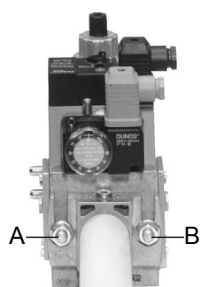
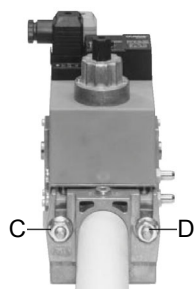
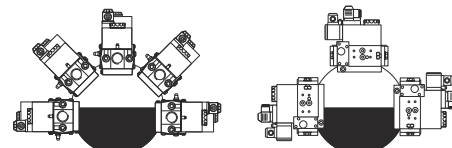

Fig. 3
Fig. 4
Fig. 6
3. tighten screws A, B, C and D (Fig. 3 - Fig. 4), according to the mounting positions (Fig. 6);
- 1-b) in case of flanged joints: place a gasket (no. 1A..1E - Fig. 4) between the elements;
**ATTENTION:** once the gas train is mounted according to the diagram on Fig. 4, the gas proving test must be performed, according to the procedure set by the laws in force.